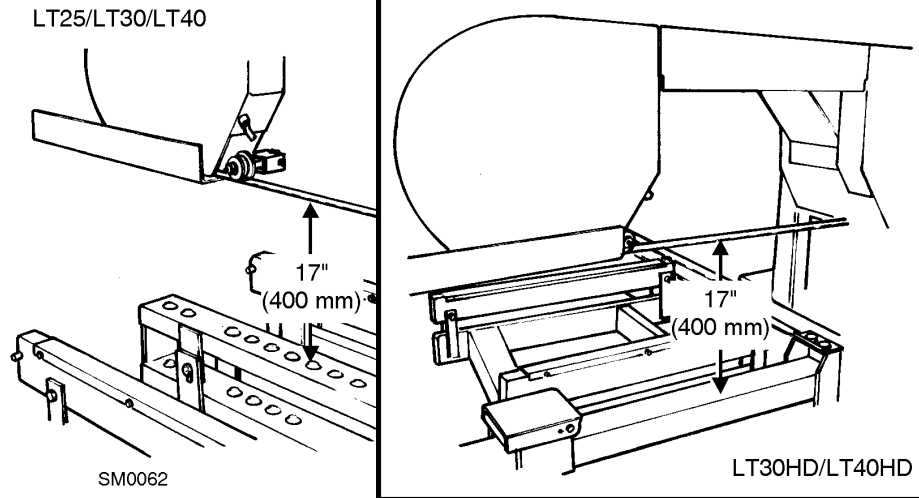

FIG. 5-5
11. Raise the cutting head until the bottom of the blade is 17" (400 mm) above the clamp tube by actual measurement with a tape or ruler. See Figure 5-5.